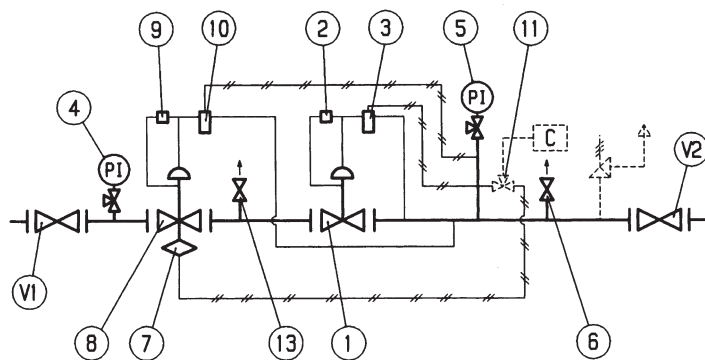

Fig. 22
**5.7 MESSA IN SERVIZIO DEL REGOLATORE APERVAL PIÙ MONITOR IN LINEA APERVAL CON VALVOLA DI BLOCCO VB/93 (FIG. 22)**
**5.7 COMMISSIONING THE REGULATOR APERVAL PLUS APERVAL IN LINE MONITOR WITH INCORPORATED VB/93 SLAM-SHUT (FIG. 22)**
**5.7 INBETRIEBNAHME DES REGLERS APERVAL MIT IN REIHE GESCHALTETEM MONITOR APERVAL MIT INTEGRIERTEM SAV VB/93 (ABB. 22)**
**5.7 MISE EN SERVICE DU DETENDEUR APERVAL ET MONITOR EN LIGNE APERVAL, AVEC VANNE DE SECURITE INCORPOREE (FIG. 22)**
**5.7 PUESTA EN SERVICIO DEL REGULADOR APERVAL CON MONITOR EN LÍNEA APERVAL Y VÁLVULA DE BLOQUEO INCORPORADA VB/93 (FIG. 22)**
**5.7 ACTIVAÇÃO DO REGULADOR APERVAL COM MONITOR EM LINHA APERVAL E VÁLVULA DE BLOQUEIO INCORPORADA VB/93 (FIG. 22)**